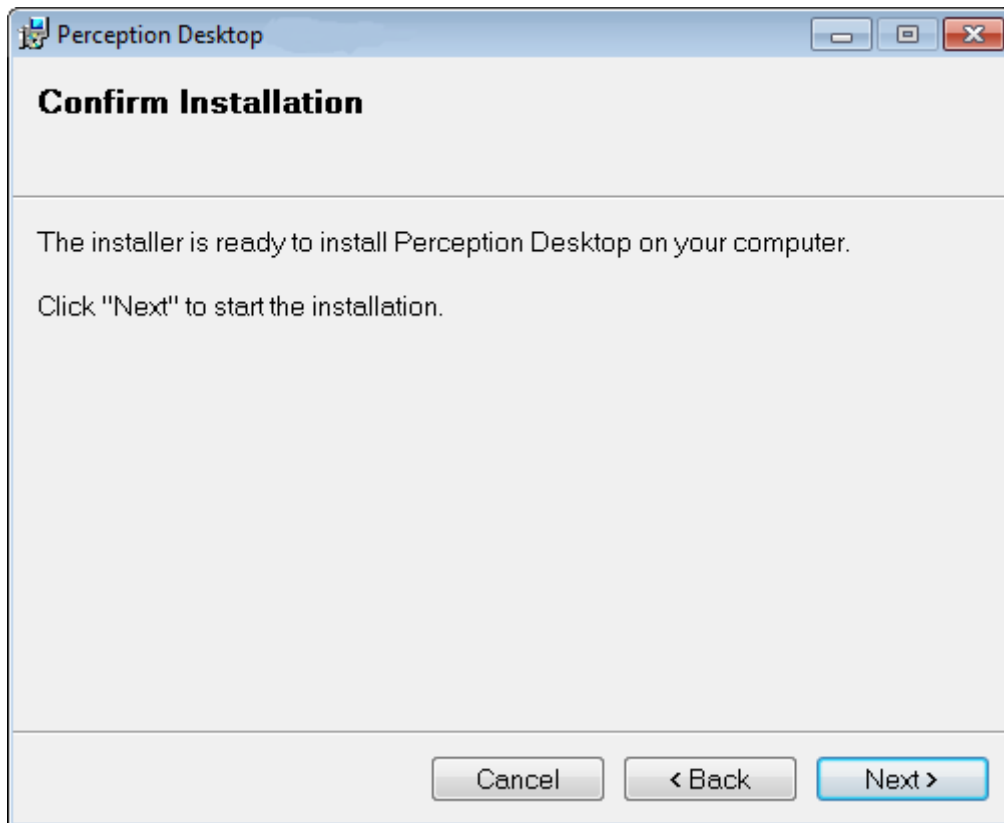

Figure 2-4: Confirm Installation
2.2.4 Click **Next** to start the installation, **Back** to backtrack and change some of the selections, or **Cancel** to quit the process entirely, as shown in Figure 2-4.